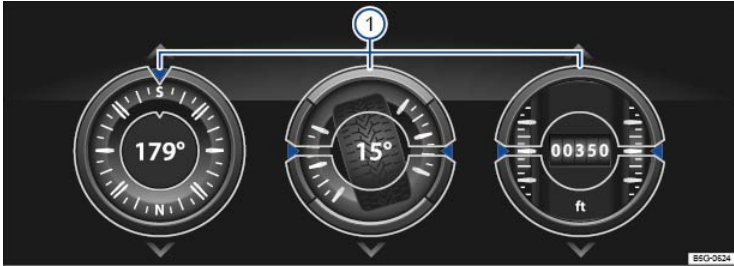

Fig. 130 In the Infotainment system: Offroad display.
The display can show a maximum of 3 instruments at any given time. Each instrument can be selected for each display area ⇒ Fig. 130 ①.